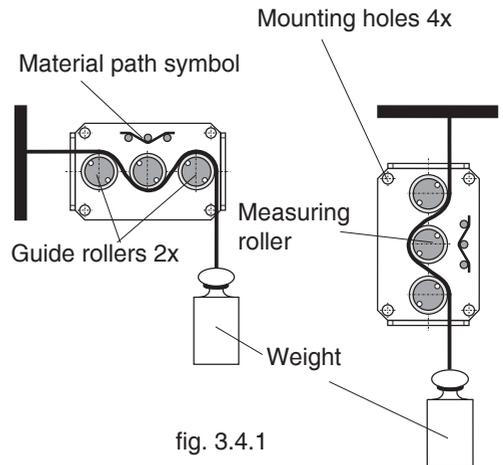

fig. 3.4.1
- Hang a weight that corresponds to e.g. 10% of the tension range (pay attention to the correct unit of measure) from the process material, vertically, as shown in fig. 3.4.1. (Always use a fresh portion of the material to be measured.)
- Hang a weight that corresponds to e.g. 90% of the tension range (pay attention to the correct unit of measure) from the process material, vertically, as shown in fig. 3.4.1. (Always use a fresh portion of the material to be measured.)